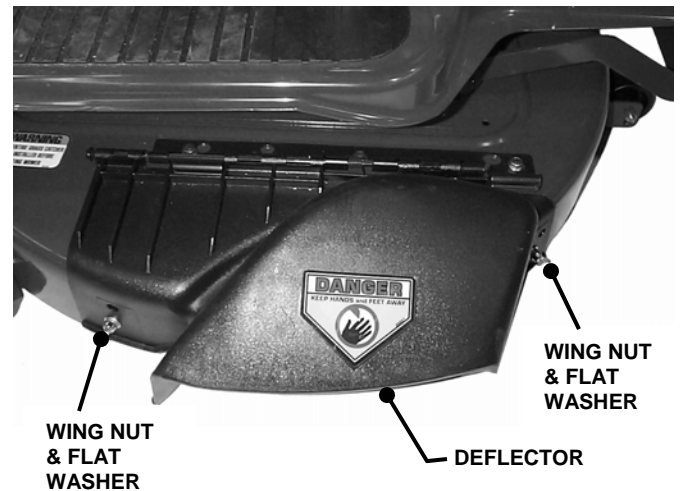

FIGURE 1.11
- A. Remove wing nuts, flat washers and bolts securing Deflector to side of deck. Save hardware. See Figure 1.11.